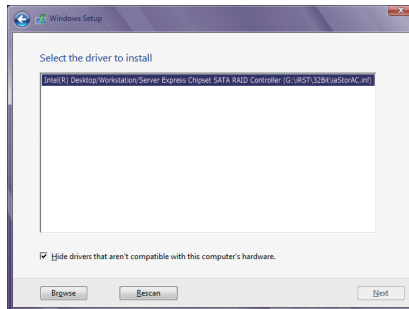

Figure 1
When a screen as shown in Figure 1 appears, select **Intel(R) Desktop/Workstation/Server Express Chipset SATA RAID Controller (I::\IRST\32Bit\UpdStrAC.inf)** and click **Next** to load the driver and continue the OS installation.